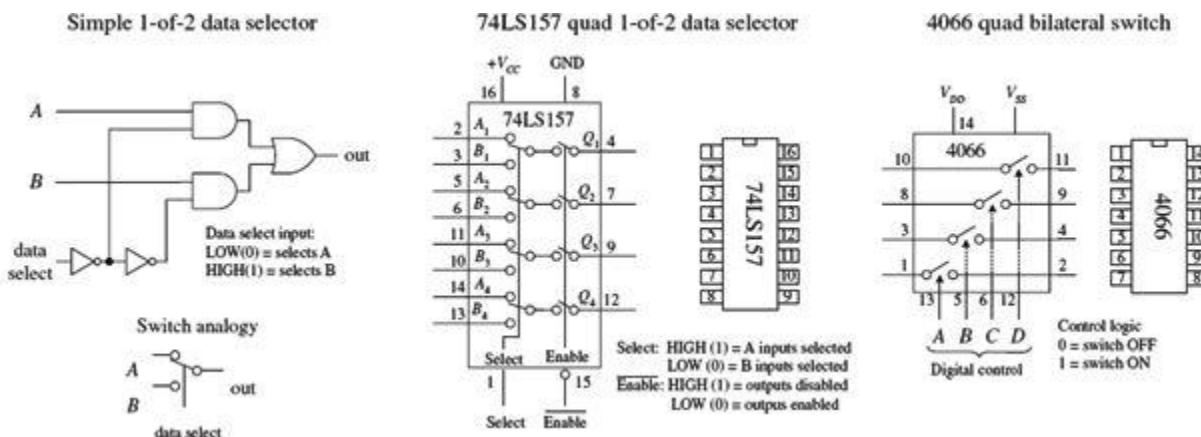
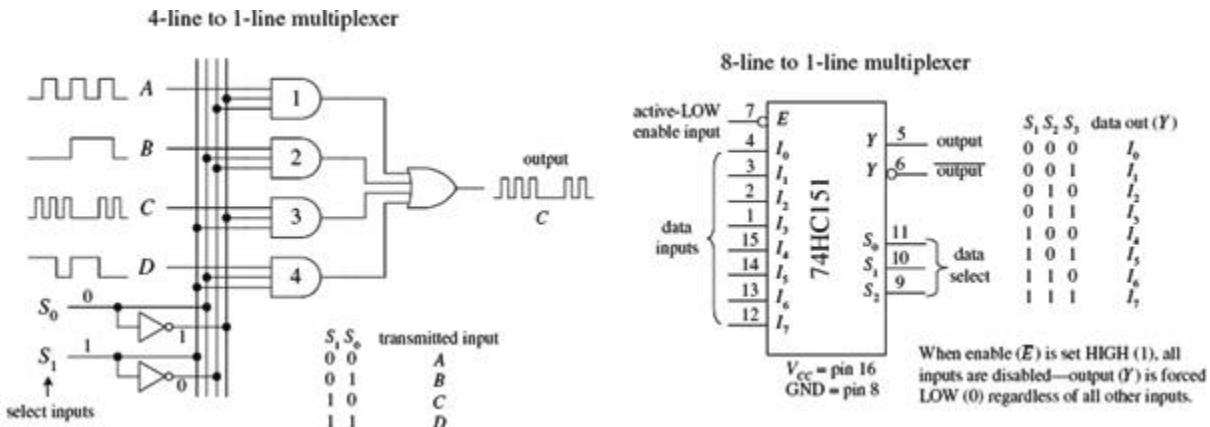

FIGURE 12.32
FIGURE 12.33
A simple 1-of-2 data selector built from logic gates is shown in Fig. 12.32. The data select input of this circuit acts to control which input (*A* or *B*) gets passed to the output: When data select is low, input *A* passes while *B* is blocked. When data select is high, input *B* is passed while *A* is blocked. To understand how this circuit works, think of the AND gates as enable gates.
There are a number of different types of data selectors that come in IC form. For example, the 74LS157 quad 1-of-2 data selector IC, shown in Fig. 12.32, acts like an electrically controlled quad SPDT switch (or if you like, a 4PDT switch). When its select input is set high (1), inputs A_1, A_2, A_3 , and A_4 are allowed to pass to outputs Q_1, Q_2, Q_3 , and Q_4 . When its select input is low (0), inputs B_1, B_2, B_3 , and B_4 are allowed to pass to outputs Q_1, Q_2, Q_3 , and Q_4 . Either of these two conditions, however, ultimately depends on the state of the enable input.
Figure 12.33 shows a 4-line-to-1-line multiplexer built with logic gates. This circuit resembles the 2-of-1 data selector shown in Fig. 12.32 but requires an additional select input to provide four address combinations.
Finally, let's take a look at a very useful device called a *bilateral switch*. An example bilateral switch IC is the 4066, shown to the far right in Fig. 12.32. Unlike the multiplexer, this device merely acts as a digitally controlled quad SPST switch or quad transmission gate. Using a digital control input, you select which switches are on and which switches are off. To turn on a given switch, apply a high level to the corresponding switch select input; otherwise, keep the select input low.